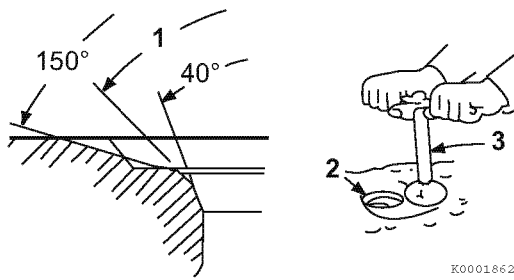

Figure 6-23
Light cutting can be performed by the use of a hand-operated cutter (**Figure 6-23, (3)**).
The valve seat diameter can be adjusted by top-grinding with a 150° stone to make the seat diameter smaller, and bottom-grinding using a 40° stone to make the seat diameter larger. Once the seat location has been corrected, grind and lap the seat angle (**Figure 6-23, (1)**) to specification. See *Cylinder Head* on page 6-4 for specifications.